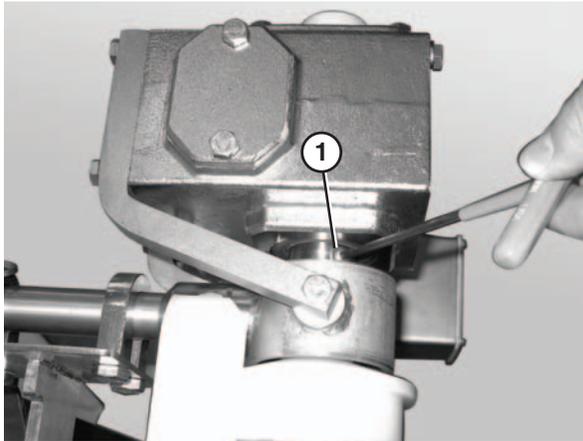

Figure 65
1. Loosen the button head screws (**Figure 65, item 1**) that connect the gearmotor to the drive spindle.